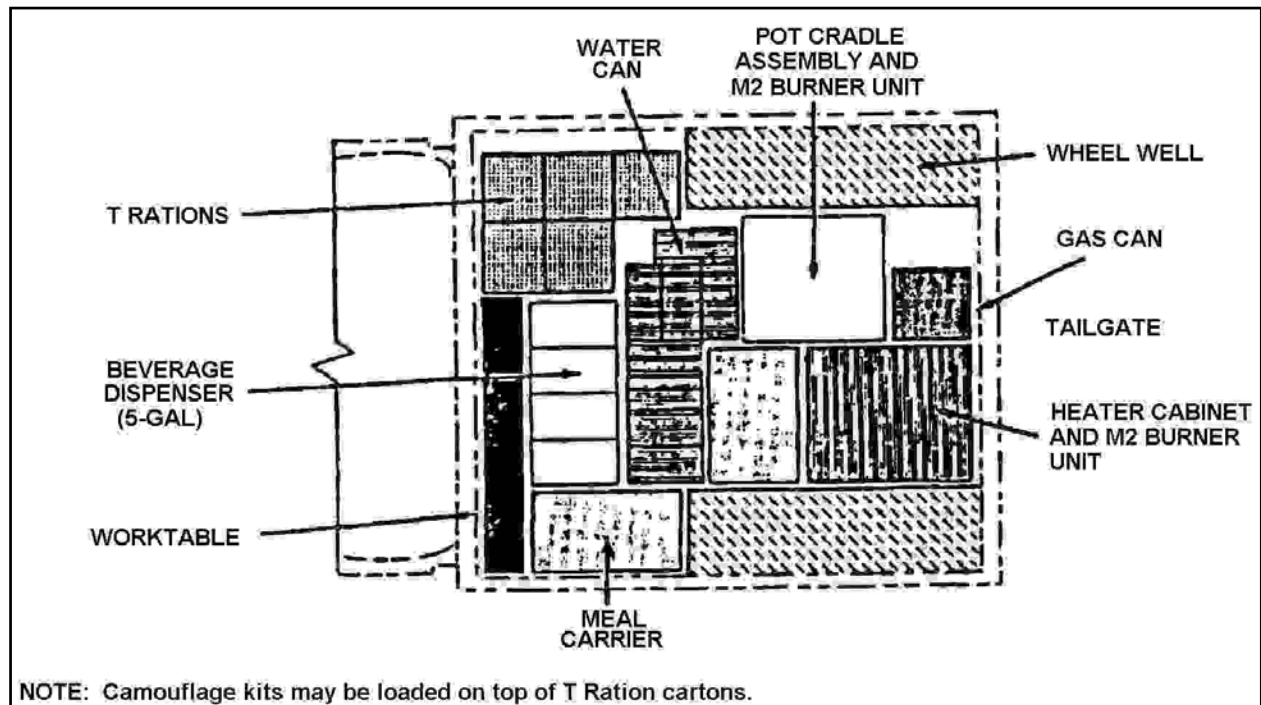

Figure 3-36. KCLFF Packed for Movement on HMMWV
- b. Check the load plan for HMMWV (see Figure 3-36).